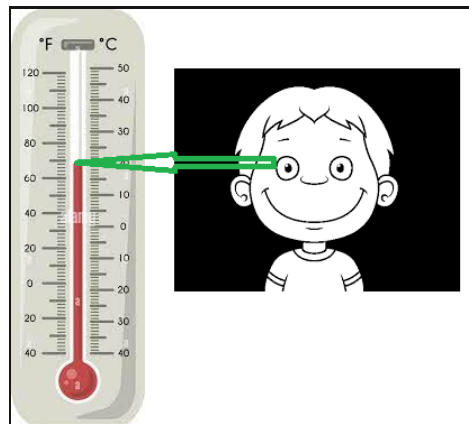

Fig. 2: Correct position of the observer's eye
- This can be reflected, for example, when looking at the thermometer to measure temperature, the observer's eye must be in a straight line with the thermometer, because if it is looked at from below or from above, the measurement will be incorrect (see Fig. 2). The same is true for the rain gauge, where it is the lower part of the meniscus in the measuring tube that should be measured, not the edges.